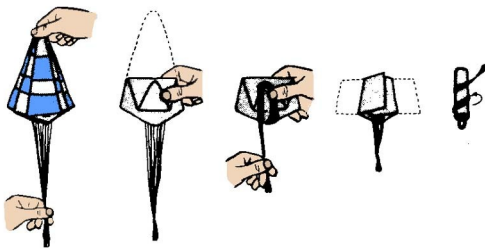

Figure 13
- **Step 28** Using Figure 13 as a guide, fold the parachute just before you are ready to launch. Never store the parachute inside the rocket. This is why you are instructed to attach a snap link to the parachute lines. When preparing to launch, attach the snap links of both parachutes to the screw eye in the base of the payload bulkhead.